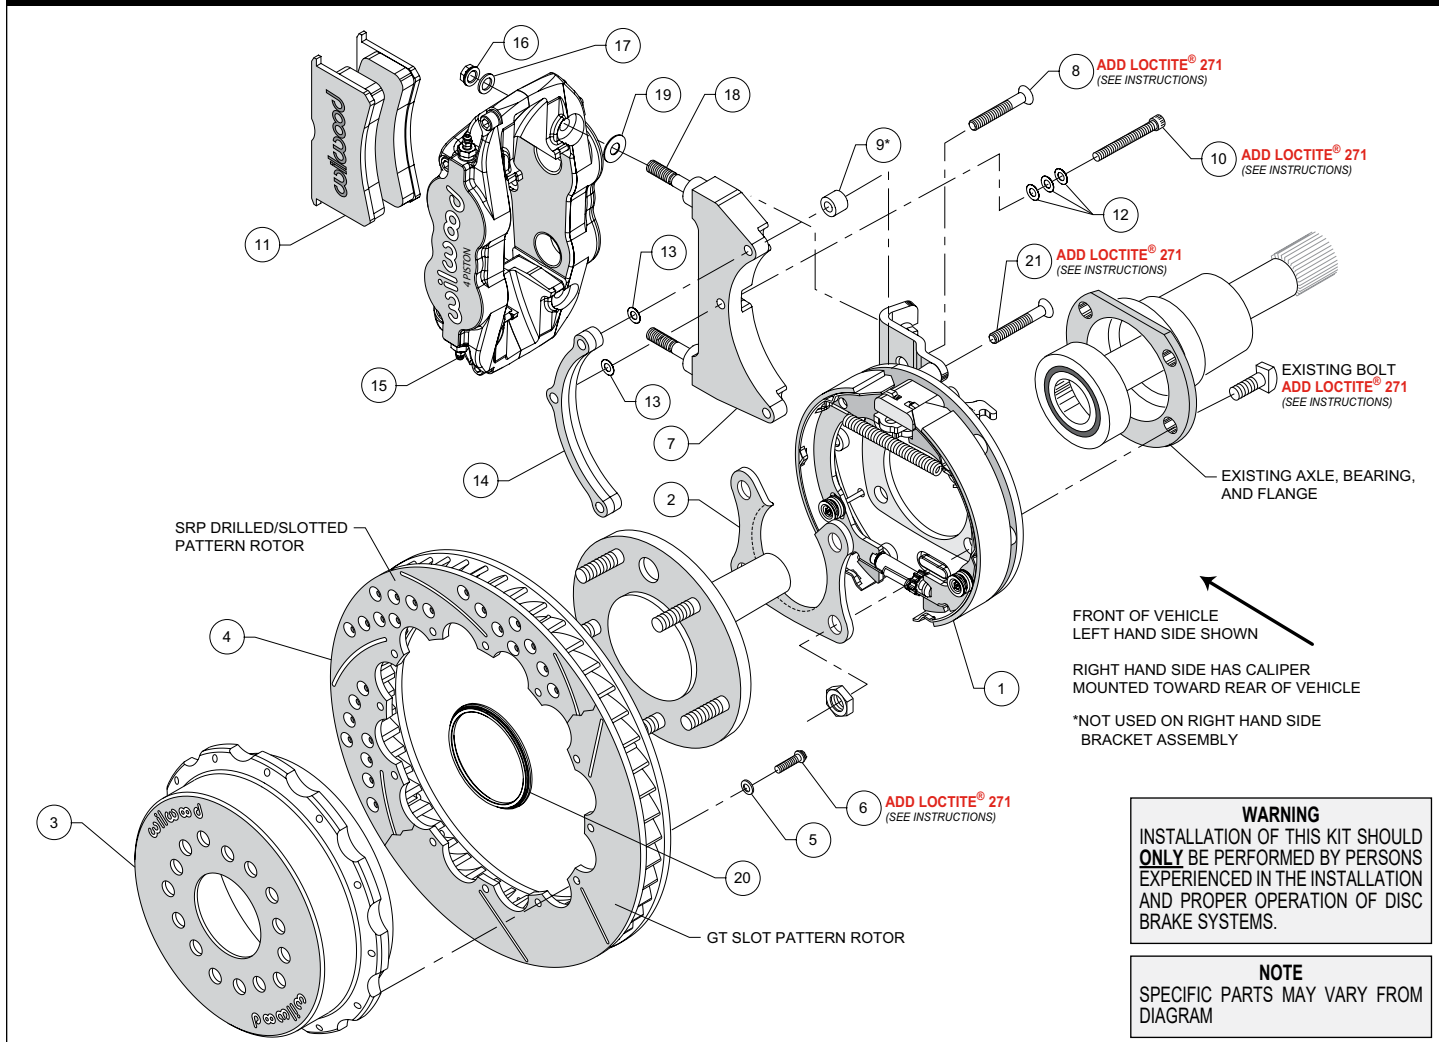
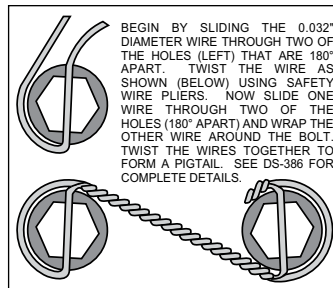

Figure 1. Typical Installation Configuration
Figure 5. Safety Wire Diagram
NOTE: Numbers in parenthesis refer to the parts list and Figure 1 on the preceding pages.
• Orient the bracket assembly (1), as shown in Figure 1, and Photo 1, and slide it onto the axle. Insert the axle and bracket into the axle housing. Ensure that the bracket assembly backing plate fits flush against the axle housing flange.
• Install the bearing retainer (2) with the opening pointing upward and the lip facing inward (toward the bearing), as shown in Figures 1 and 4, and Photo 2. Secure retainer and bracket assembly to the axle housing flange using the Original Equipment Manufacturer (OEM) bolts and nuts, Figure 1. Apply red *Loctite*® 271 to the OEM bolt threads and torque to OEM specifications.
• **NOTE:** Please reference the caution statement at the beginning of the assembly instructions. The caliper mounting bracket assembly (7) should initially be installed with clean, dry threads on the mounting bolts.
Left Hand Side - Remove and discard temporary rubber spacer from bolt (8). Orient the left hand bracket (7) and 3-hole spacer (14) as shown in Figure 1 and Photo 3, and install using bolts (10) and three washers (12) in the middle and lower hole locations, Figure 1. Use bolt (8) in the upper hole with spacer (9) placed between the bracket (7) and the cable stop bracket, Photo 3. Initially place one .015" shim washer (13) on each of the three bolts between the bracket and 3-hole spacer, Figure 1. Temporarily tighten the mounting bolts.
•Orient the rotor (4) and the hat (3) as shown in Figure 1 and Photo 5. Attach rotor to hat using bolts (6) and washers (5). Apply red Loctite® 271 to the bolt threads and torque to 155 **in-lb** using a criss-cross pattern. For an added measure of security, the bolts may be safety wired using standard 0.032 inch diameter stainless steel safety wire as shown in Figure 5. Please refer to Wilwood's data sheet DS-386 (available at www.wilwood.com/Pdf/DataSheets/ds386.pdf) for complete safety wire installation instructions.
•Slide the rotor registration adapter (20) onto the axle register on the axle flange with the smaller O.D. facing toward the rotor/hat (3/4), Photo 6. Align the correct hole pattern in the hat with the stud pattern on the axle flange and slide into place, Figure 1 and Photo 7. **NOTE:** The rotor/hat must fit flush against the axle flange or excessive rotor run out may result. Install three lug nuts (finger tight) to keep the rotor/hat assembly in place while continuing with the installation. **NOTE:** Some OEM and after market axles come with stud sizes larger than 0.50" diameter. Verify stud size and have a qualified machine shop drill the bolt circle of the hat/rotor to the correct stud size, if necessary.
•Initially place one .035" thick shim (19) on each stud (18) as shown in Figure 1 and Photo 8. Mount the caliper (15) onto the bracket (7) using lock nuts (16) and washers (17), Figure 1. Temporarily tighten the lock nuts and view the rotor through the top opening of the caliper. The rotor should be centered in the caliper, Photo 9. If not, adjust by adding or subtracting shims (13) between the bracket (7) and the 3-hole spacer (14). Always use the same amount of shims on each of the three mounting bolts. Once the caliper alignment is correct, remove the bracket